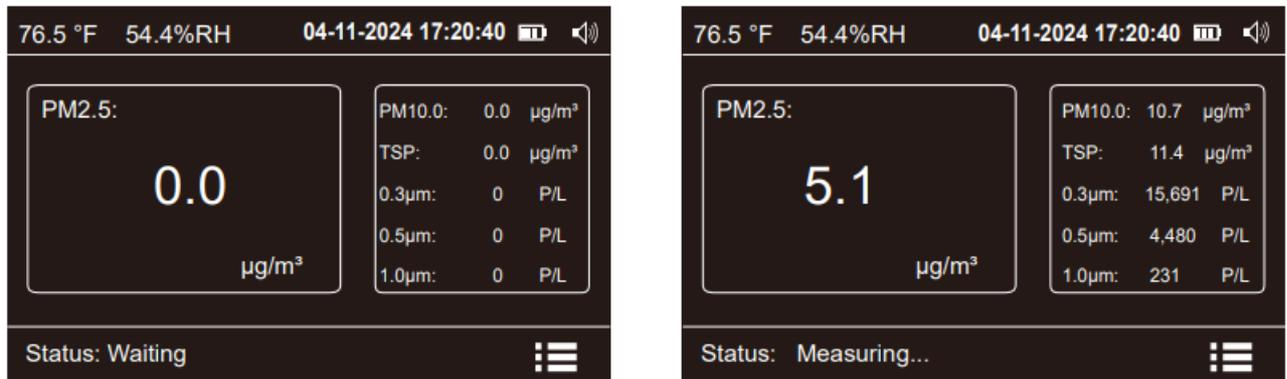

Fig.3
- Press  to start detection, and it will display the real-time data of all parameters. The instrument defaults to continuous sampling. During the sampling process, you can press  to pause sampling (Fig.3).